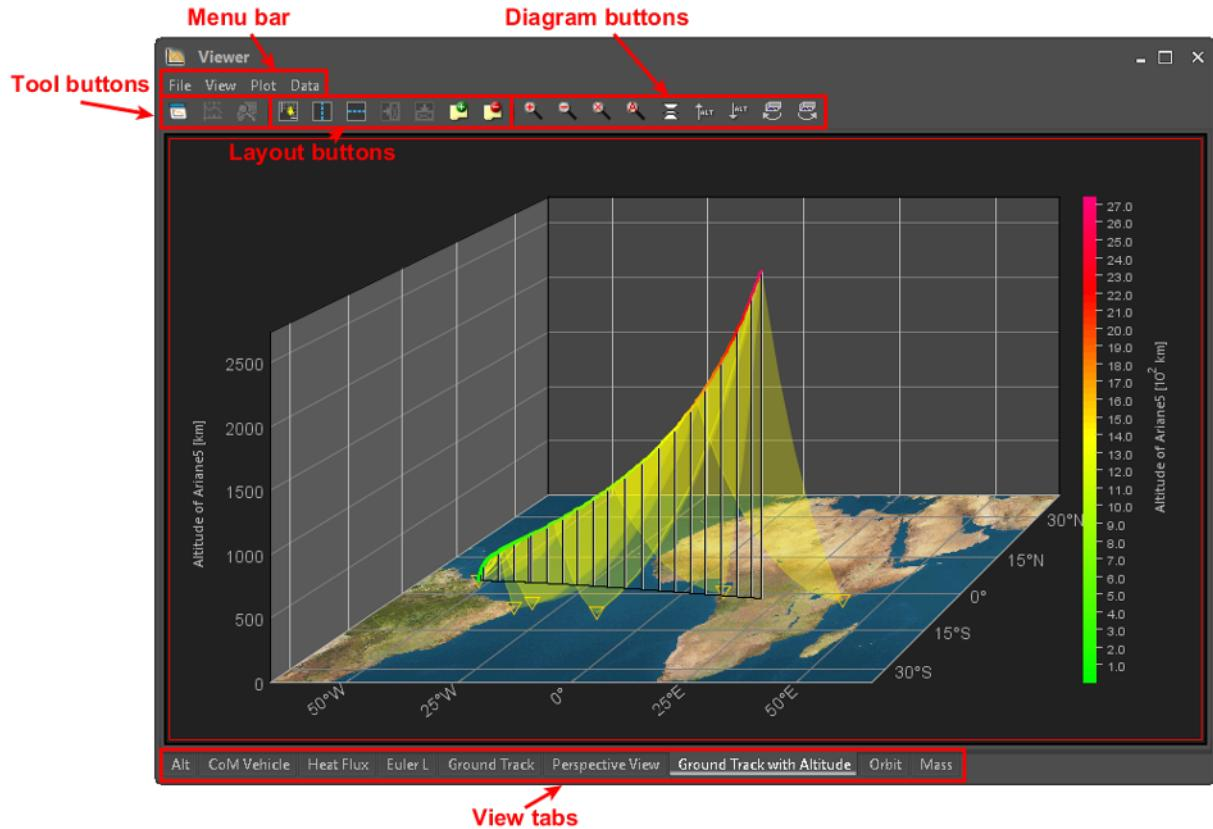

Fig. 2.3: The Viewer window
Tip: If a *Curve Plots* diagram is currently displayed, it is necessary to clear the plot to reactivate the *Grids* and *Review Iterations* toolbar buttons (Fig. 2.3), .
- New/Remove View adds/removes a new view tab in the Viewer window. To be distinguishable, all the views are serially numbered. To switch between the views, select the desired view tab in the register (lower part of the Viewer window, see Fig. 2.3).